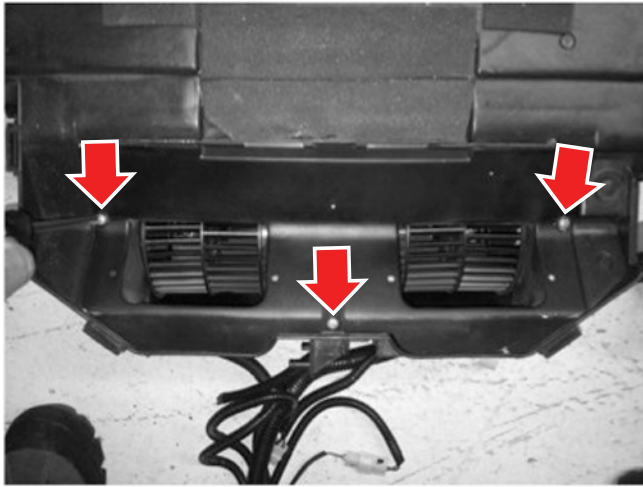

Figure 11-5
5. Remove the three screws which secure the HVAC motor in the housing (see Figure 11-5).